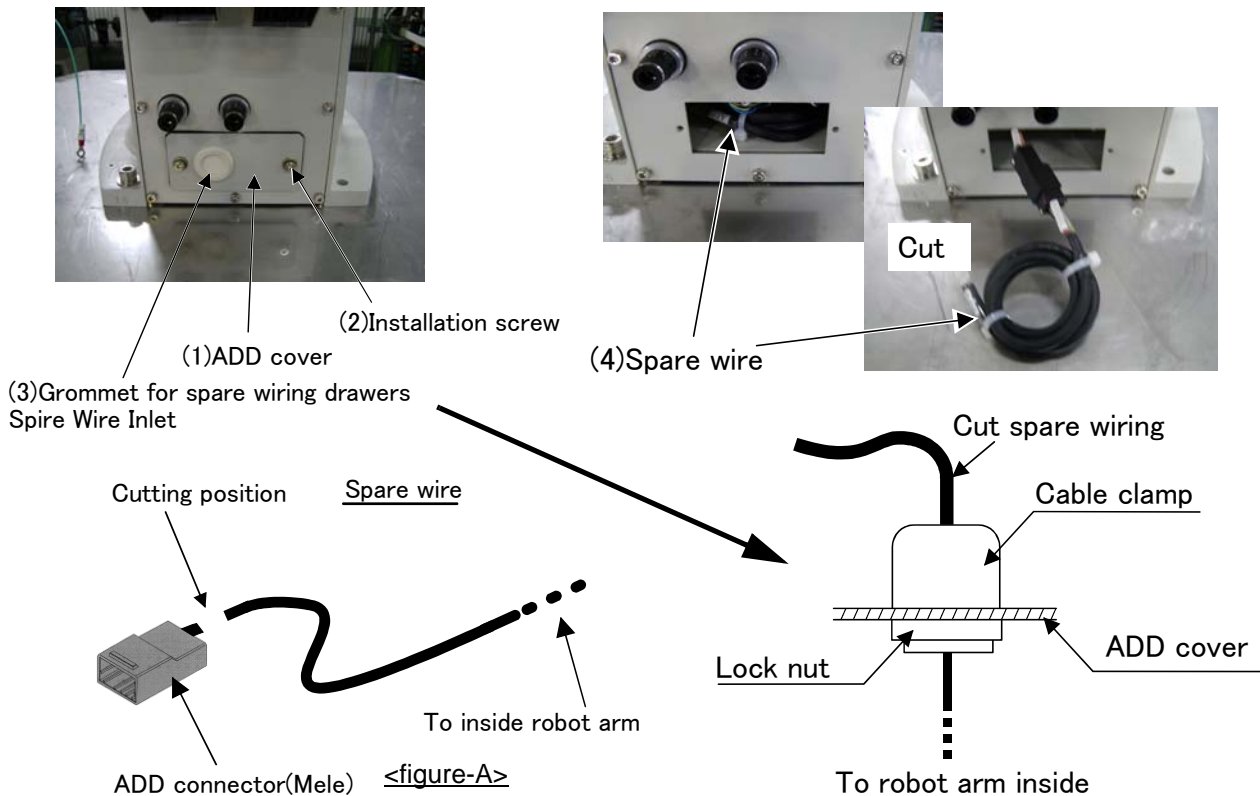

Fig.2-10 : Pull out spare wiring(Base area)
2) Remove (1)ADD cover with reference to the "5.3.2 Installing/removing the cover" on page 58.
5) Cut spare wiring near the connector (from the connector end to the about 10-20mm. Refer to figure-A in Fig. 2-10)